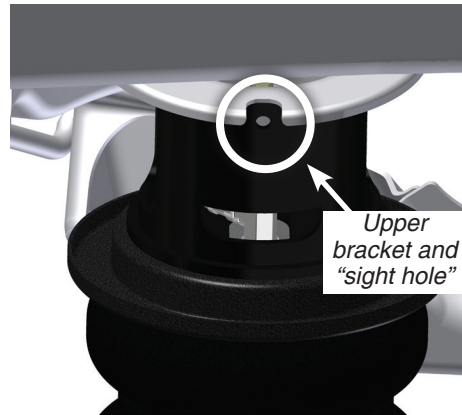

fig. 15
- Center the assembly over the upper spring perch, with the upper bracket "sight hole" aligned with the notch in the upper spring seat (Fig. 15). Thread the upper bracket bolt into the nut plate, torque to 27Nm (20 lb.-ft.).